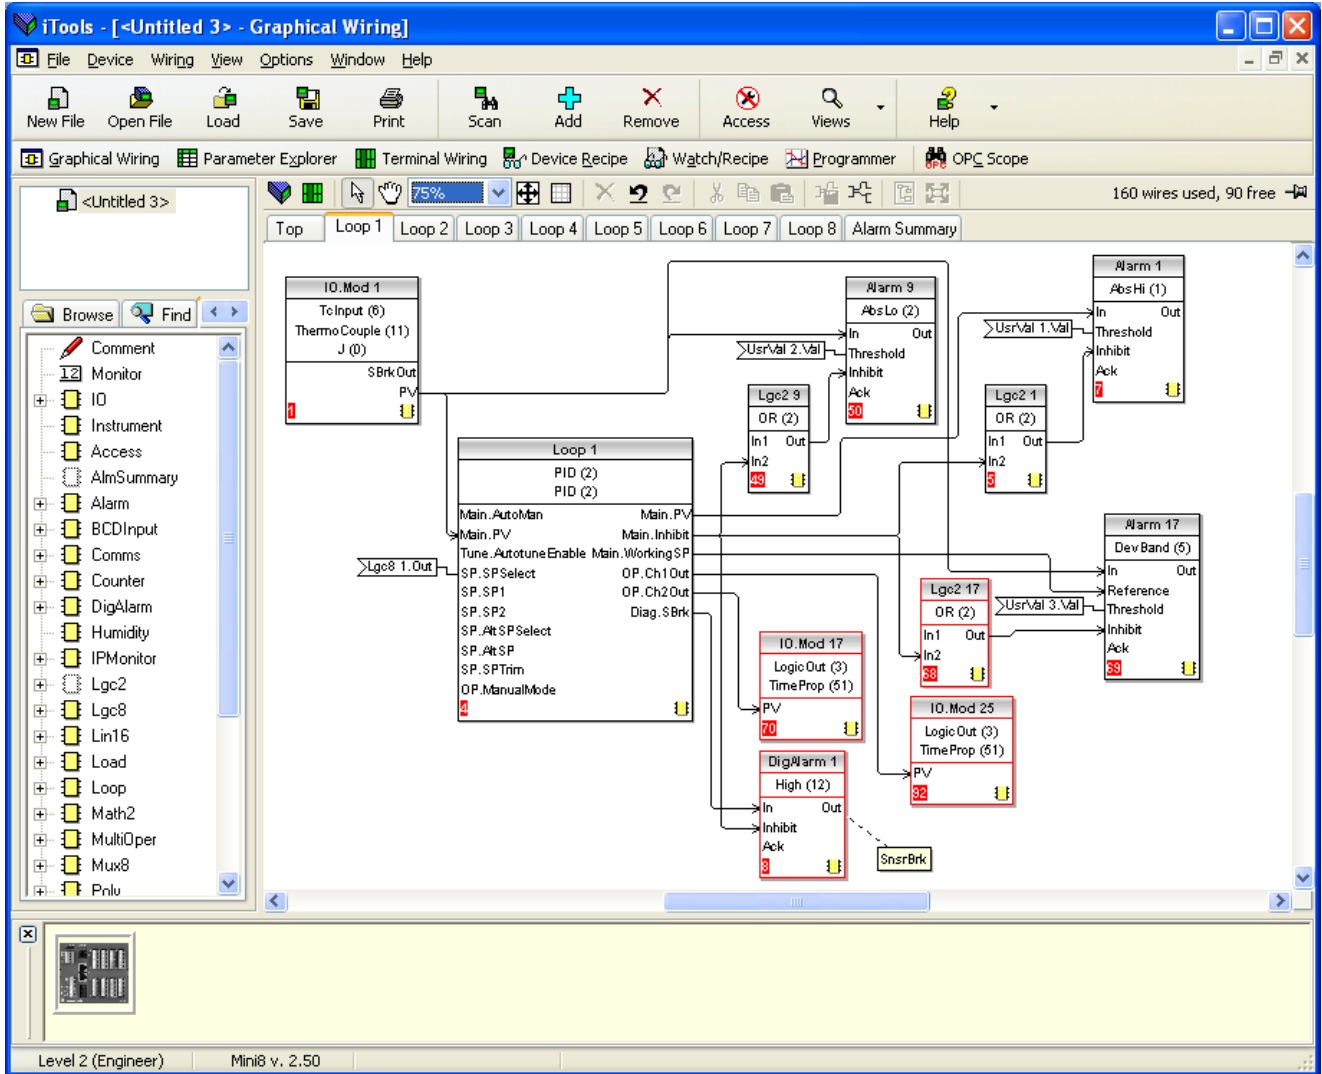

Figure 11-15: Mini8 Controller Graphical Wiring
2. Configure the Mini8 controller using iTools. In the example below the all 8 loops in the Mini8 controller slave have been setup for temperature control as shown for Loop 1 in the iTools Graphical Wiring (Figure 11-15).